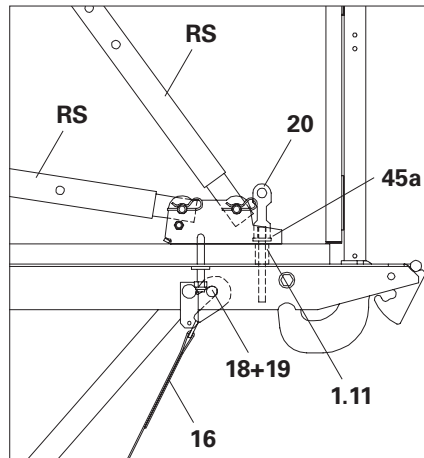

Fig. B2.04b
1. Bolt Base Plate-2 for RS 210-1400 (45a) into the rear multi-purpose connector (1:11) with Push-Pull Prop Bolt FB (20).
2. Secure Push-Pull Prop RS with bolts and cotter pins. (Fig. B2.04b)
1. Hook the suspension hook of the tension belt (29) in an additional bolt Ø 16 x 150 (18) with cotter pin (19) in the hole behind the connection of the struts. (Fig. B2.04b + B2.04c)